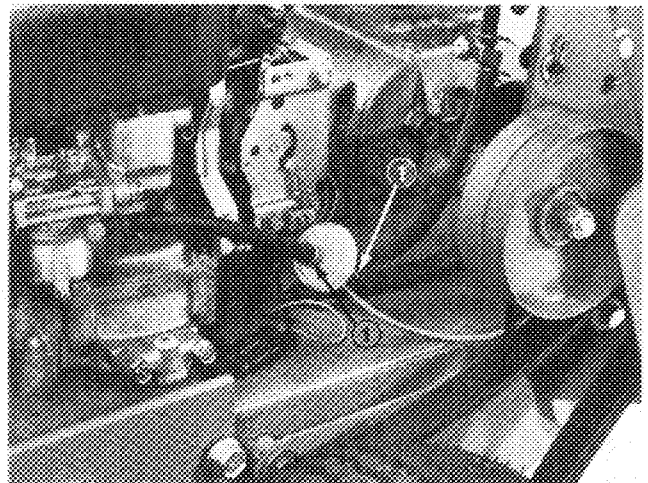

Figure 4
29. Mount throttle control, control module and control panel to upper handle with (4) #10-24 x  $\frac{1}{4}$ " lg. machine screws and locknuts. Use front screw to mount module.
31. Plug remaining wire harness connectors into bridge rectifier (See wiring diagram, page 6) and mount panel bottom to front and back of control panel with (4) #10-16 x  $\frac{1}{2}$ " lg. self tapping screws.
32. Install new fuel lines, fuel filter and shut off valve with (4) fuel line clamps as shown in Fig. 4.